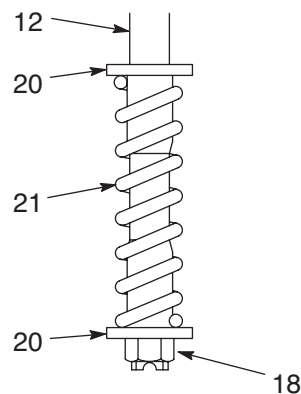

FIG. 8
9. Visually inspect the spring (21) if there is wear or damage, proceed with this step. Remove the nut (18), spring (21), and retainers (20) from the trip rod (12). Reassemble with a retainer (20) on each end of the new spring (21). You must thread the nut onto the rod until it runs out of thread, so that it bottoms out on the shoulder of the rod. (FIG. 8)